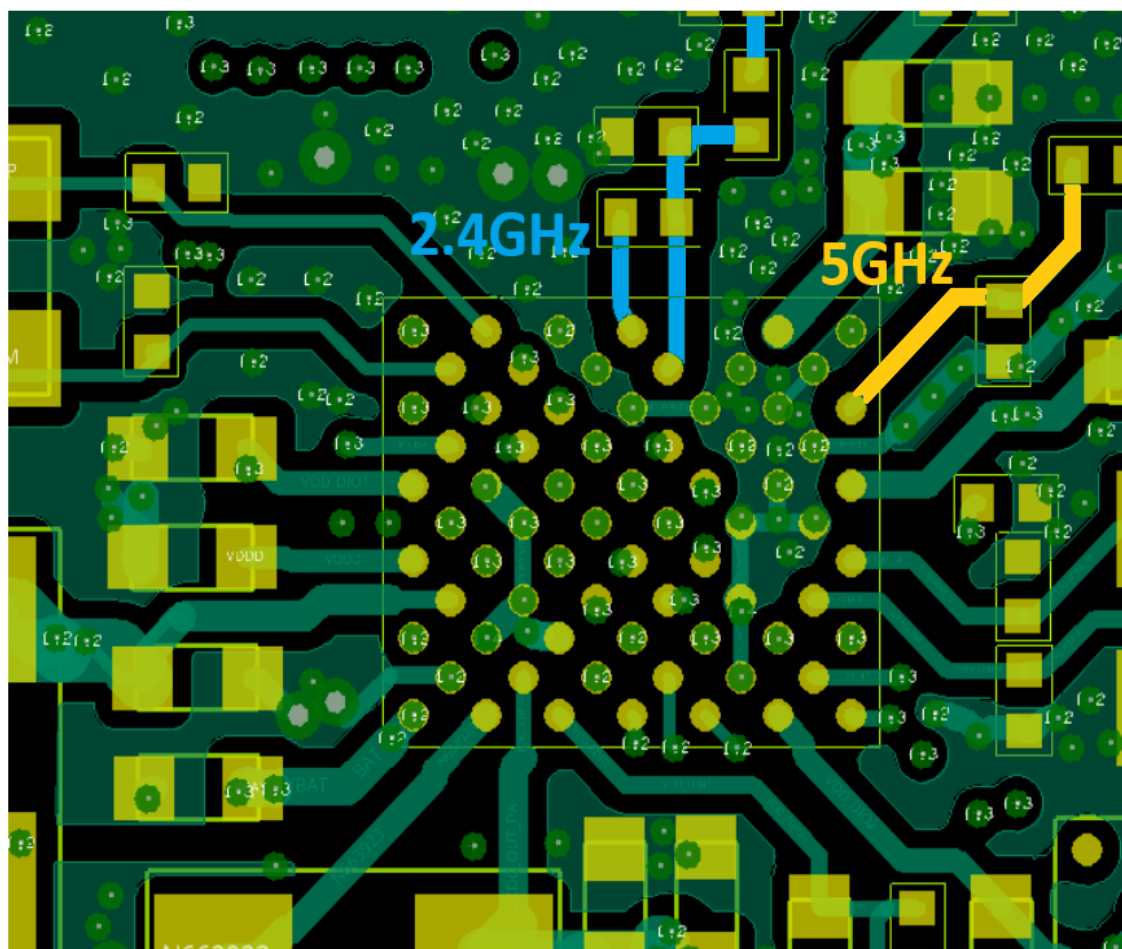

Figure 19. L1 top layer, RA6W1 – WLCSP
- L1 top layer is used for component placement and routing the pins located on the periphery of the chip. Components placement must follow the guidelines for power, crystal, and RF sections. Routing of the RF traces are applied on this layer, see Figure 19.